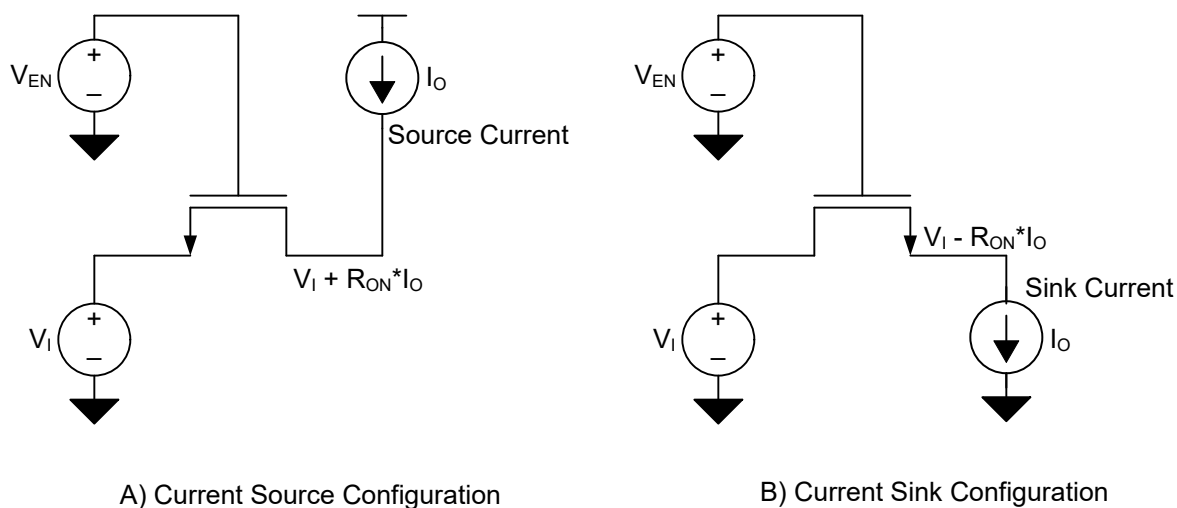

Figure 7-1. Current Source and Current Sink Configurations for Direct R_{ON} Measurements
(1) All typical values are at T_A = 25°C.
(2) Measured by the voltage drop between the SCL1 and SCL2, or SDA1 and SDA2 terminals, at the indicated current through the switch. Minimum ON-state resistance is determined by the lowest voltage of the two terminals.
(3) Measured in current source configuration only. See Figure 7-1
(4) Measured in current sink configuration only. See Figure 7-1